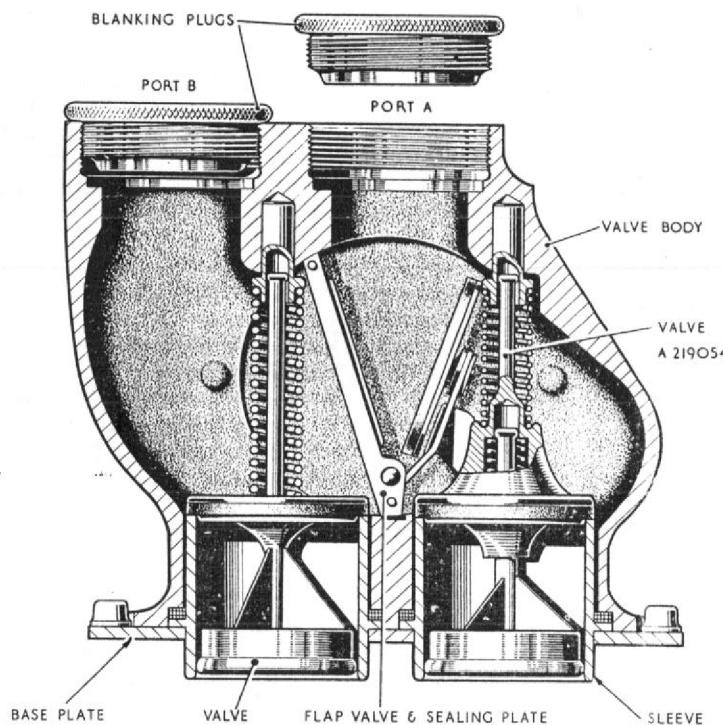

Fig. 9 Fuel and air valve for inboard pylon
tanks for fuel transfer purposes, are joined to the drop tanks by means of self-sealing fuel and air valves (fig.9) which connect the fuel and air pipes when the drop tanks are jettisoned. A bypass valve, consisting of a ducted plate which interconnects the air and fuel pipes, is assembled to the wing when a pylon is not fitted. Each drop tank has its own float switch which comes into action automatically during the refuelling of the tanks. The construction of the pylons to which the drop tanks may be attached is described in Sect.3, Chap.2, the drop tank release mechanism in Sect.5, Chap.1, and the method of attachment in Sect.2, Chap.2.
**Fuel and air valve for inboard pylon (fig. 9)**